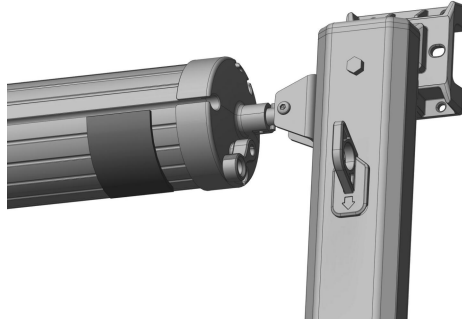

Figure E3
3. The fabric on both sides of the scroll is unevenly folded, and one side cannot be tightened: check whether the awning fabric is damaged or deformed, and replace the sunshade fabric. Alternatively, an appropriate thickness of adjustment sticker can be applied to the edge of the rolled tube on the side that cannot be fully tightened (to be provided separately), and the amount of the tarpaulin circle can be fine tuned to ensure even tightening on both sides. (Figure E3).